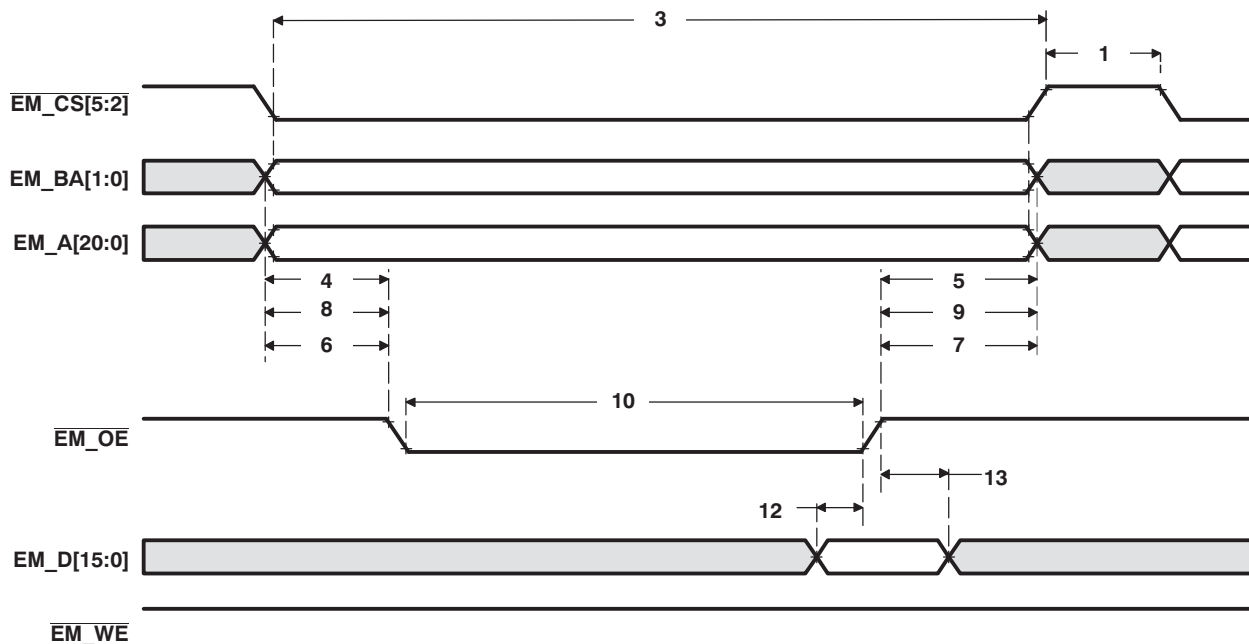
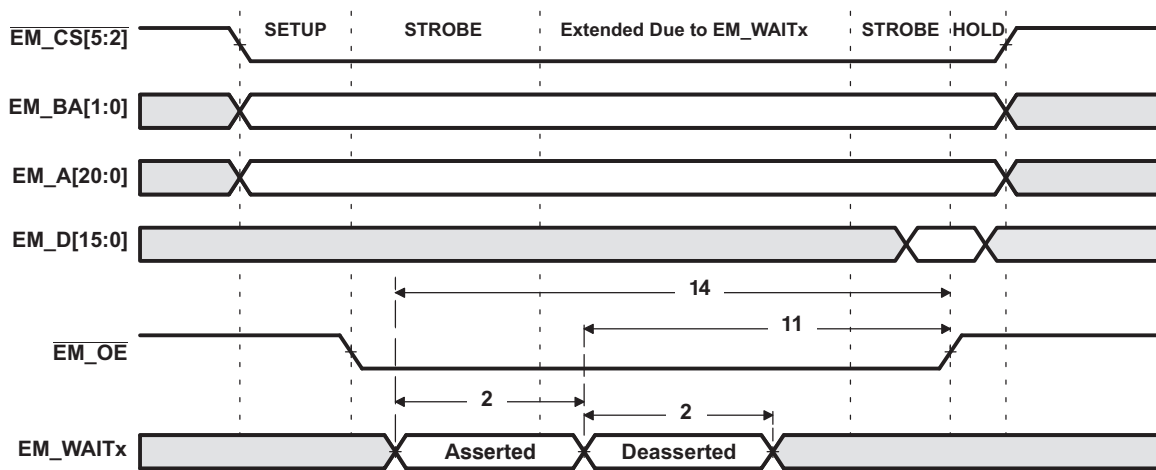
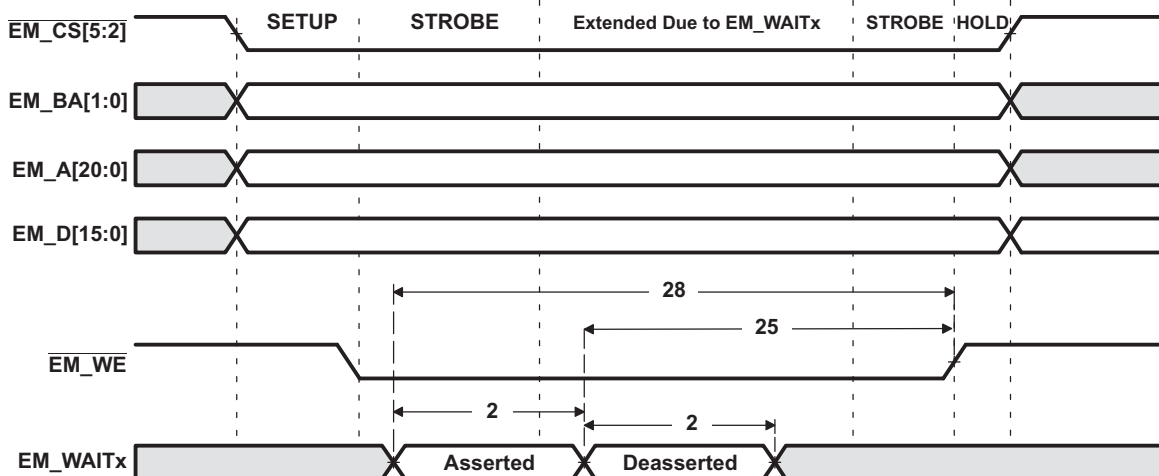

Figure 6-17. Asynchronous Memory Read Timing for EMIF
Figure 6-19. EM_WAITx Read Timing Requirements
Figure 6-20. EM_WAITx Write Timing Requirements
Table 6-19. Timing Requirements for EMIF Asynchronous Memory⁽¹⁾ (see Figure 6-17, Figure 6-19, and Figure 6-20)
(1) E = SYSCLK period in ns. For example, when SYSCLK is set to 100/120 MHz, E = 10/8.33 ns, respectively.
(2) Setup before end of STROBE phase (if no extended wait states are inserted) by which EM_WAITx must be asserted to add extended wait states. Figure 6-19 and Figure 6-20 describe EMIF transactions that include extended wait states inserted during the STROBE phase. However, cycles inserted as part of this extended wait period should not be counted; the 4E requirement is to the start of where the HOLD phase would begin if there were no extended wait cycles.
Table 6-20. Switching Characteristics Over Recommended Operating Conditions for EMIF Asynchronous Memory^{(1) (2) (3)} (see Figure 6-17, Figure 6-19, and Figure 6-20)
(1) TA = Turn around, RS = Read setup, RST = Read strobe, RH = Read hold, WS = Write setup, WST = Write strobe, WH = Write hold, MEWC = Maximum external wait cycles. These parameters are programmed via the Asynchronous Configuration and Asynchronous Wait Cycle Configuration Registers.
(2) E = SYSCLK period in ns. For example, when SYSCLK is set to 100/120 MHz, E = 10/8.33 ns, respectively.
(3) EWC = external wait cycles determined by EM_WAITx input signal. EWC supports the following range of values EWC[256-1]. Note that the maximum wait time before timeout is specified by bit field MEWC in the Asynchronous Wait Cycle Configuration Register.
Table 6-20. Switching Characteristics Over Recommended Operating Conditions for EMIF Asynchronous Memory^{(1) (2) (3)} (see Figure 6-17, Figure 6-19, and Figure 6-20) (continued)